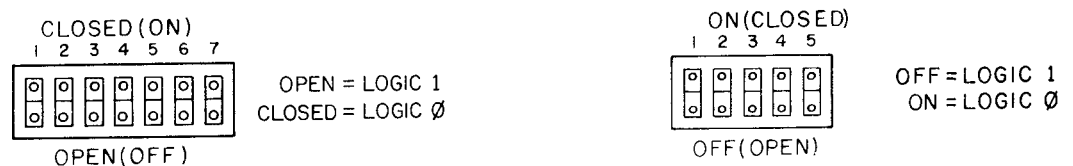

FIG. 2-4 ONE OF FOUR POWER SUPPLY IDENTIFICATION SWITCHES ON THE TL 488-4A BOARD (LEFT) AND ON THE TL 488-4B BOARD (RIGHT).
- STEP 3: Locate the POWER SUPPLY IDENTIFICATION SWITCHES as indicated in FIG. 2-1 and detailed in FIG. 2-4.